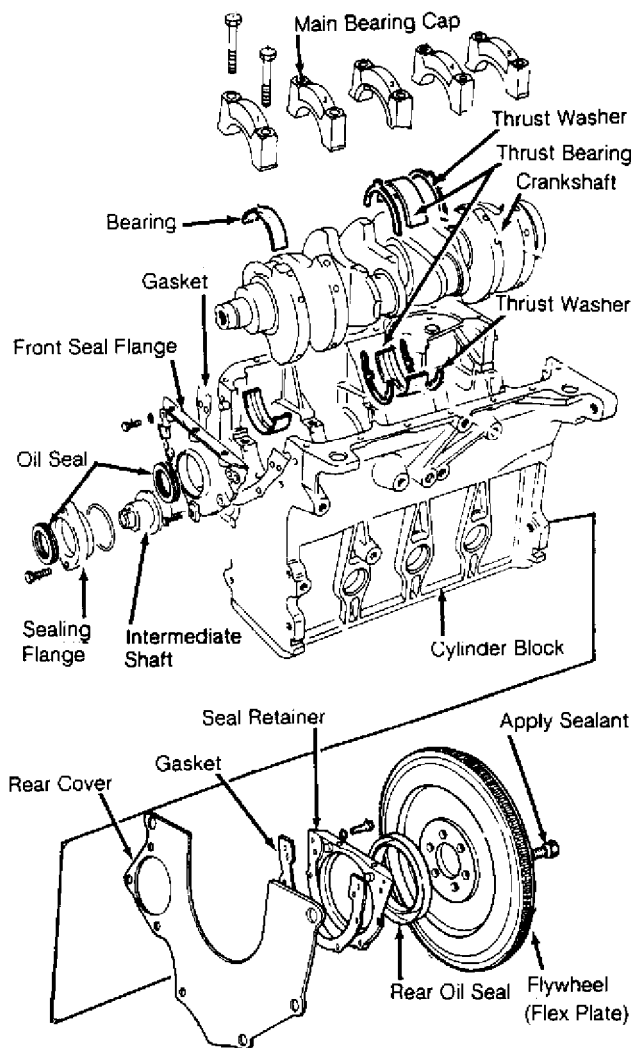

Fig. 16: Crankshaft Assembly
2) Ensure intermediate shaft end play does not exceed .010" (.25 mm). Remove intermediate shaft sprocket. Remove intermediate shaft seal flange. Remove intermediate shaft. Replace seal (if necessary). See Fig. 16. To install, reverse removal procedure.
Remove flywheel/flexplate, and discard bolts. See Fig. 16. Remove retaining flange. Remove rear crankshaft oil seal. Use Installer (2003/1) to install seal. To complete installation, reverse removal procedure. Install new flywheel/flex plate bolts.
Main bearing caps are marked with matching journal for installation in original position. See Fig. 16. Measure crankshaft end play. See THRUST BEARING.
Insert feeler gauge between No. 3 main bearing and crankshaft thrust face to measure end play. See Fig. 16. Replace thrust bearing as necessary. See CRANKSHAFT, MAIN & CONNECTING ROD BEARINGS table under ENGINE SPECIFICATIONS at end of article.